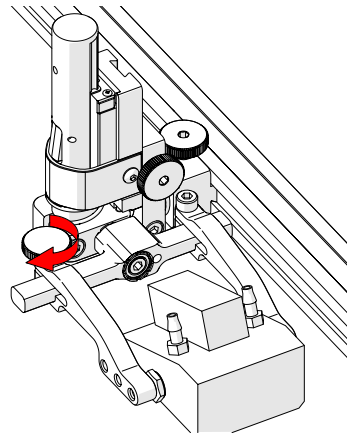

Fig. 108 - Tighten arm knob
6. Tighten the probe holder arm adjustment knob (Fig. 108).